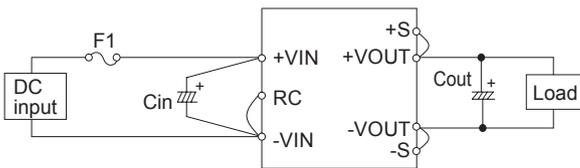
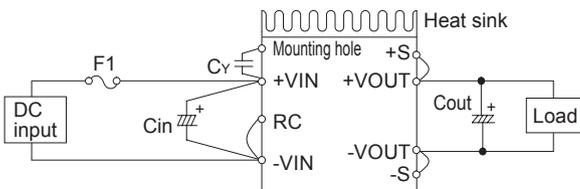

Fig.1.1 Connection for Standard Use (CQHS250)
Fig.1.2 Connection for Standard Use (CQHS300/CQHS350)
■ The power module needs input and output connection as shown in Fig.1.1 or Fig.1.2.
■ A decoupling capacitor  $C_Y$  must be used to reduce the line noise on the input line and stabilize the power module operation (Fig. 1.2). Note that resonance and inductance from the input line filter may cause the power module to become unstable.
■ An external capacitor  $C_{in}$  must be installed between +VIN and -VIN to reduce line noise and stabilize the power module operation (Fig. 1.1 and Fig.1.2).
■ Install an external capacitor  $C_{out}$  between +VOUT and -VOUT to increase stability of output (Fig. 1.1 and Fig.1.2). Recommended capacitance of  $C_{out}$  is shown in Table 2.2 and Table 2.3.